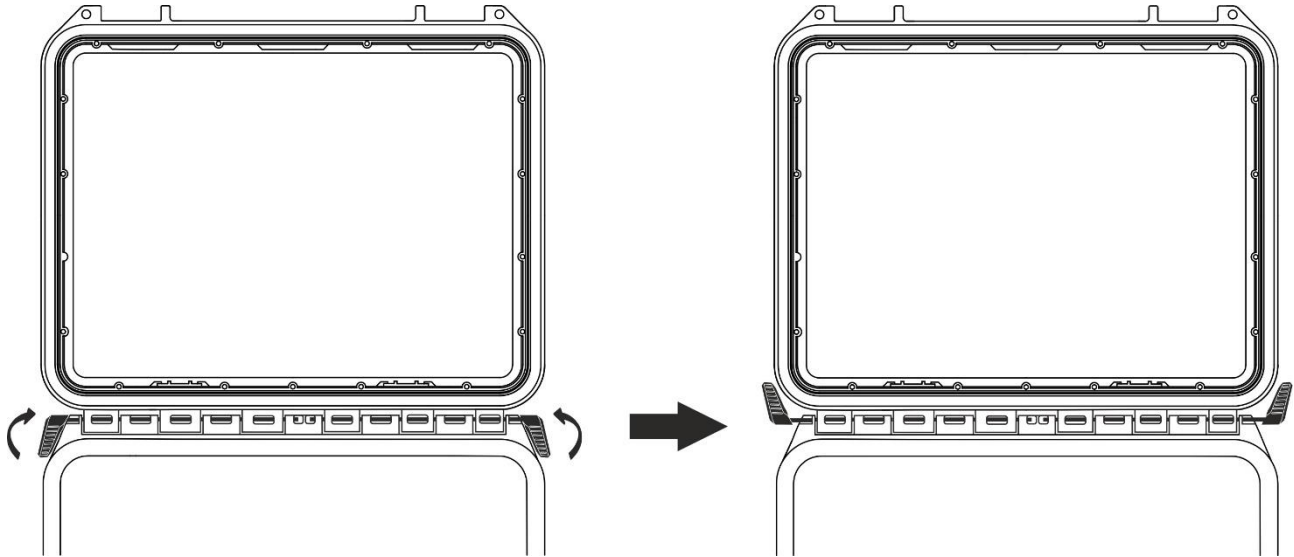

Fig. 5: Removing the cover from the instrument case - Step 1
1. Open the case and turn the two locking pins as shown in Fig. 5